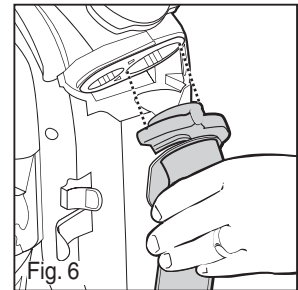

Fig. 6
- 2) With tube latch open, insert large tube into large hole. Push firmly to insert tube all the way (Fig. 6).